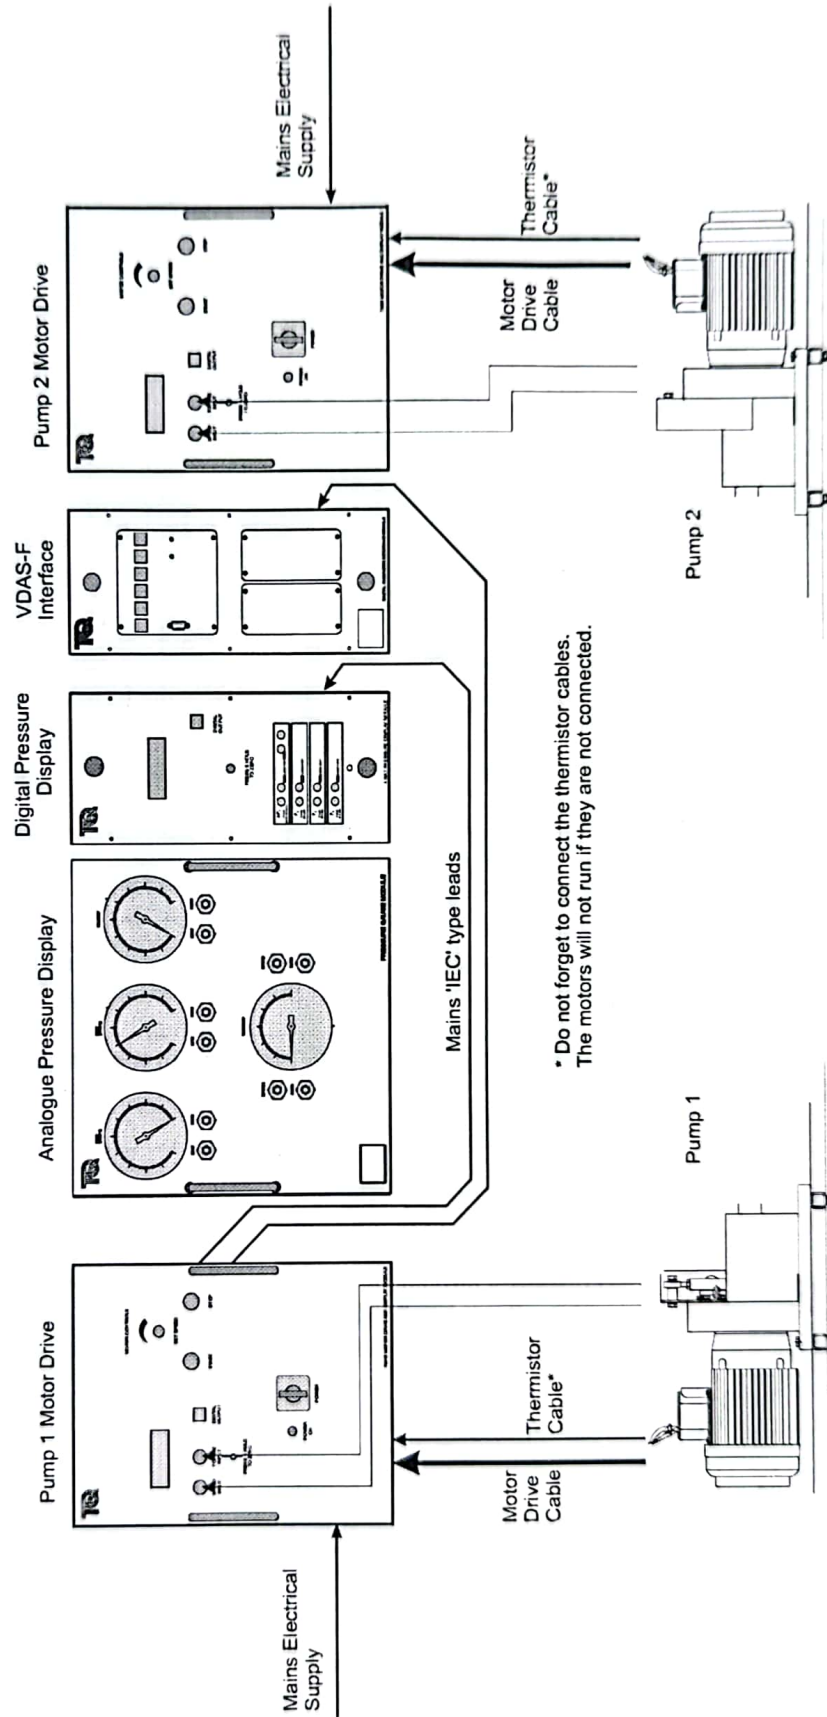

Figure 20 Full Electrical Connections (Includes the optional modules)
6. Put the two Pump Motor Drives and the other Instrument Modules into the Instrument Rail. Figure 20 shows the recommended arrangement.
The instrument modules of the H83 are powered from the IEC sockets at the back of Pump 1 Motor Drive. Refer to Figure 20. TecQuipment supply male-to-female IEC leads with the equipment.